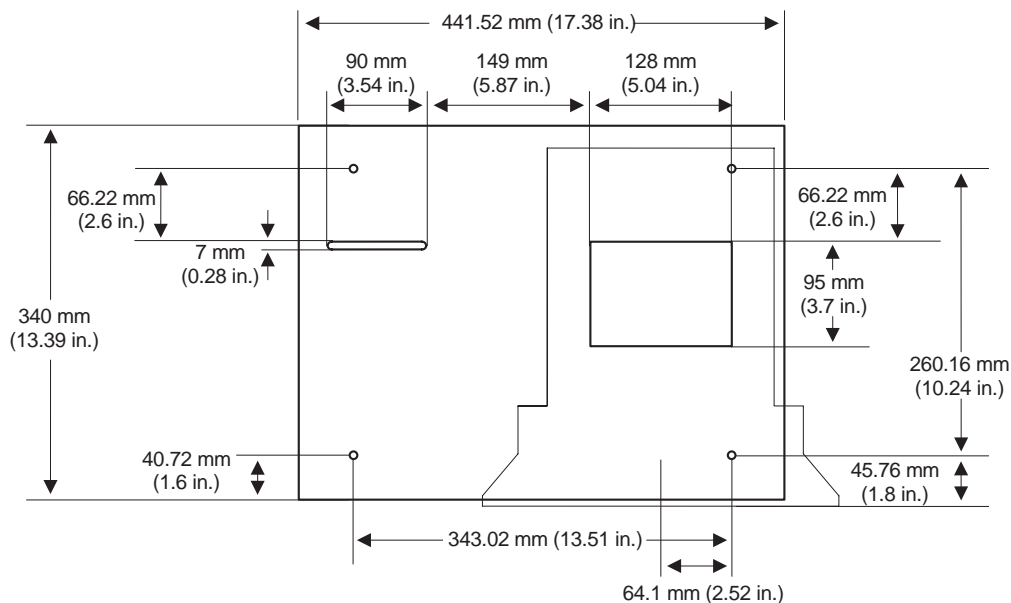
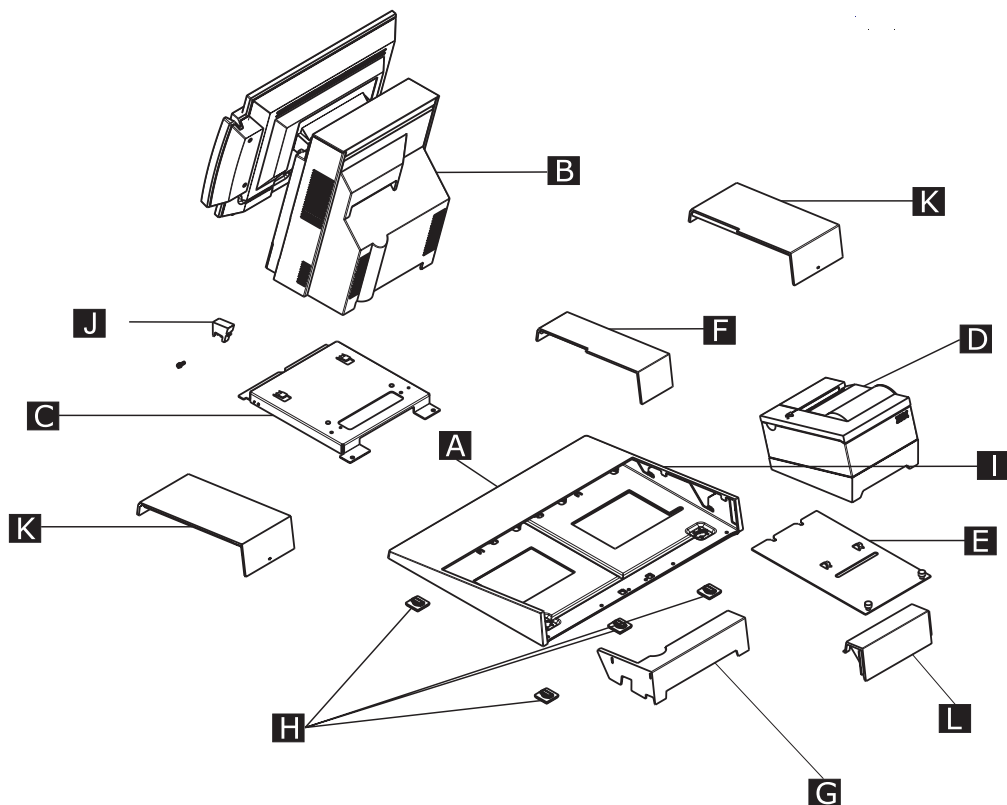

Figure 16. Countertop integration tray pattern with display and countertop cutout on right side
Figure 19. Overview of integration tray, SurePOS 500 Model 514, printer, and filler panels
The countertop integration tray can be used as a free-standing unit or secured to a countertop using mounting screws. Use the countertop integration tray drawing that comes with it as a pattern for drilling the four mounting holes and for the cable opening, if you plan to route the cables through the countertop. Four screws (not provided) are required to mount the integration tray to a countertop. For specific mounting hole and cutout dimensions, see Figure 16 on page 24.
1. For a free-standing unit, ensure that the four rubber feet **H** are installed on the bottom of the countertop integration tray (as shown in Figure 19 on page 26).
- b. Drill the four mounting holes and cut a hole in the countertop for cables, if needed. Use Figure 16 on page 24 or the openings in the integration tray as a pattern for drilling mounting holes and a cable opening in the counter. See Figure 19 on page 26 for reference.
- c. Remove the four rubber feet located on the bottom of the integration tray. See Figure 19 on page 26 for the location of the feet.
6. Attach the SurePOS 500 Model 514 and its mounting plate **C** to the right side of the integration tray **I** as shown in Figure 19 on page 26. Slide the front of the mounting plate under the appropriate pair of tabs on the tray and secure the rear of the mounting plate to the tray with two thumbscrews.
1. Install the mounting plate in the **center** of the base using the removable thumbscrews. See Figure 19 on page 26.
3. For installations **without a printer**, install the mounting plate in the *center* of the base using the removable thumbscrews. Place the filler panels on both sides. See Figure 19 on page 26. Install printer panel **G** first and use filler panels **K** to lock in filler panel **G** onto the tray.